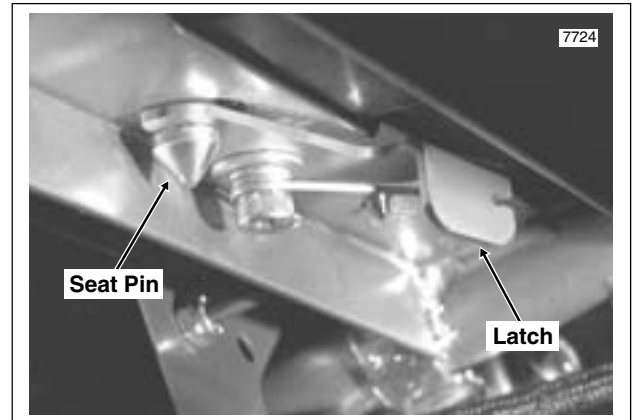

Figure 4-1. Remove Seat
1. Remove seat. Depress latch at bottom and pull seat up and back to remove. See Figure 4-1.
- Remove seat. Depress latch at bottom and pull seat up and back to remove. See Figure 4-1.